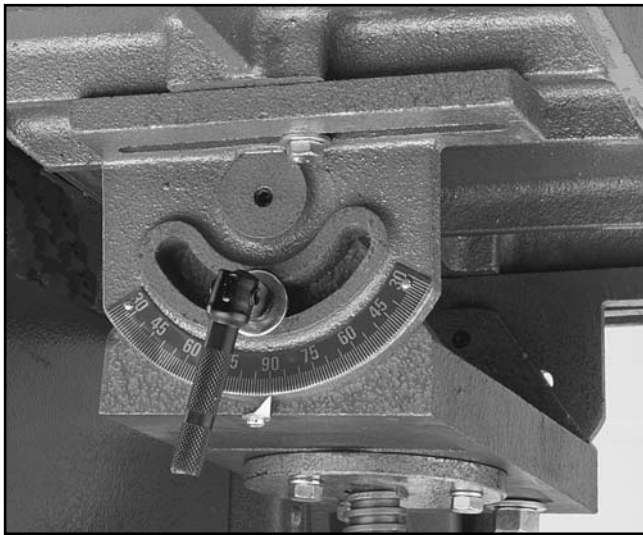

Figure 20. Lock handle underneath the table.
1. Loosen the lock handles, tilt the working table to the desired angle and retighten the lock handles. **Figure 20.**